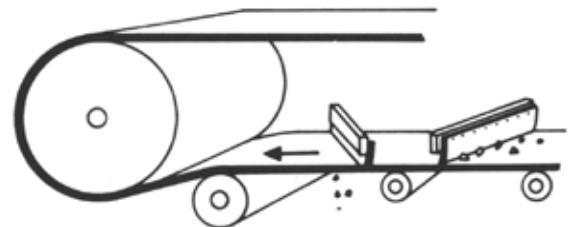
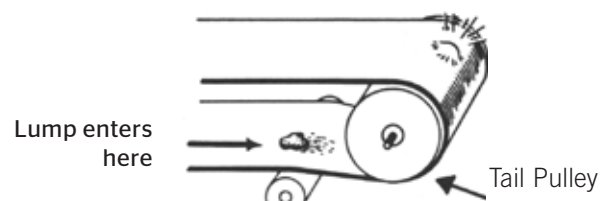

Fig. 20
Fig. 22
**The only cleaning required on the pulley side is removal of material, principally lumps, which may fall or bounce onto the return run and be carried between the belt and tail pulley if not removed (Fig. 22).** Rubber-faced plows immediately in front of the tail pulley are used for this purpose (Figs. 20 & 21). They are usually held against the belt by gravity and set at an angle to the direction of belt travel.